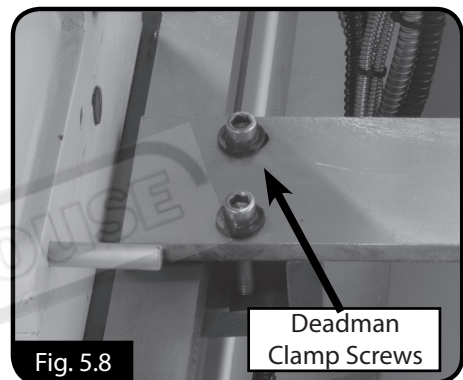

Fig. 5.8
When the cap screws (Figure 5.8) are used to clamp the deadman clamp against the bedway, the taper turning attachment is engaged.
3. Using an 8mm hex wrench, tighten both the deadman clamp cap screws so the deadman clamps against the lathe bedway (Fig. 5.8).